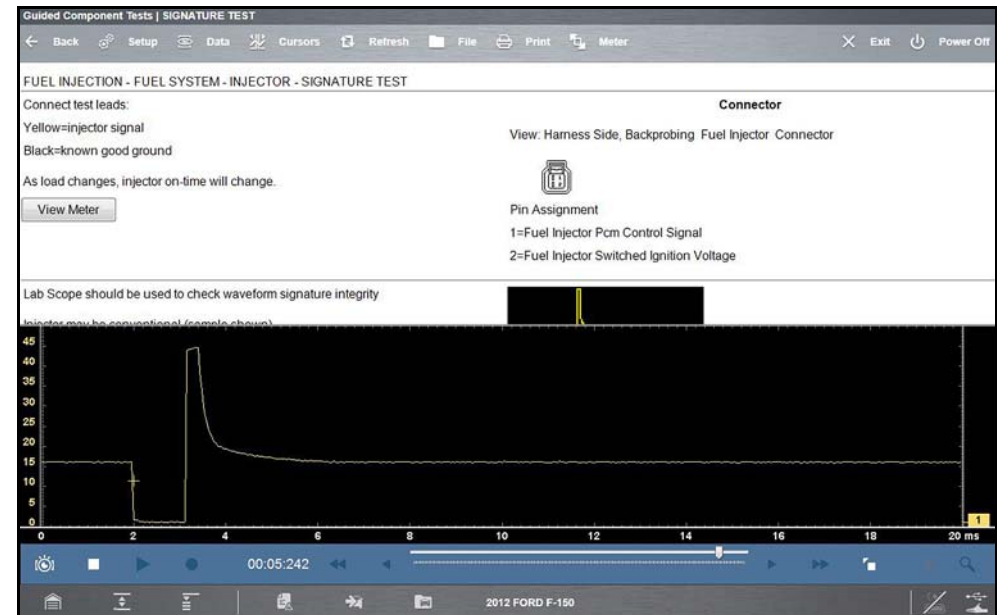

Figure 8-7 Sample view meter window
View Meter opens a live meter set up to perform the test in the lower portion of the screen (Figure 8-7). Once the meter view is open, the Guided Component Test toolbar at the top of the screen is replaced by the Scope Multimeter toolbar, which allows you to make adjustments to the settings. See Scope/Meter \(Upper\) Toolbar on page 107 for toolbar icon information.
The Meter icon, is only available Guided Component Test view meter mode (Figure 8-7).
1. With View Meter active (Figure 8-7), select the **Meter** icon on the toolbar once and the meter expands to fill the entire screen.
3. Select the **Meter** icon a third time to close the separate window and return to the standard meter view as shown in Figure 8-7.